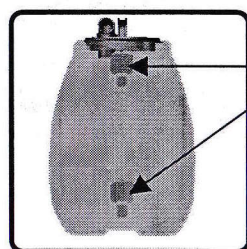
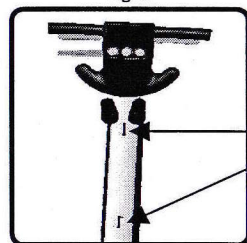

fig.5
fig.6
- ① Unpack the machine and the recovery tank;
- ② Make the handle of the machine vertical. Then hold the recovery tank and align the two buckles on it (fig.5) with the two buckles on the handle (fig.6); release the recovery tank to lock the buckles and finishing assembling the recovery tank.